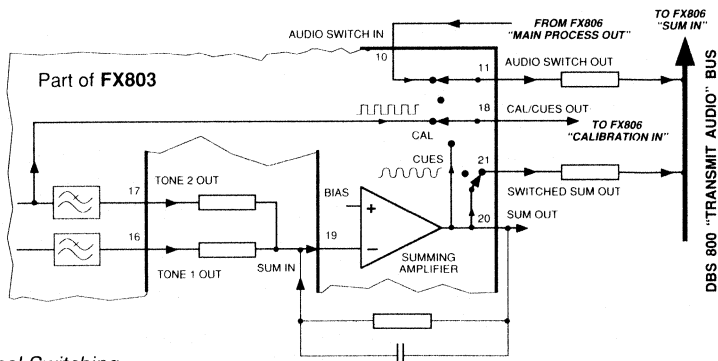

Fig.3 Output Signal Switching
3. Resistors marked with an asterisk (\*) are System Components, calculated to operate in a system with other DBS 800 microcircuits. Figure 3 shows in detail, these components used in the System signal paths.
See the Signal Switching diagram (Figure 3) and DBS 800 Document 2 for application examples.
To break the FX803 drive to the FX806 PLMR Audio Processor (see Figure 3, Signal Switching).